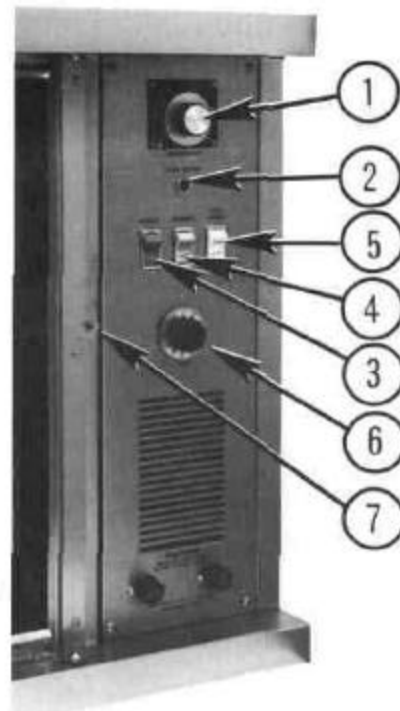

Figure 3-1
1. All controls for the Model 4200 oven are located on the control panel on the front of the oven (Fig. 3-1). These controls are; a thermostat to control oven temperature (Fig. 3-1 No. 1), an oven ready indicator light (Fig. 3-1 No. 2), a power switch with ON and OFF positions (Fig. 3-1 No. 3), a blower switch with high and low positions (Fig. 3-1 No. 4), a cool down switch with manual and auto positions (Fig. 3-1 No. 5) and a 60-minute mechanical timer (Fig. 3-1 No. 6).
4. Blower will automatically shut off by a door interlock switch when door opens (Fig. 3-1 No. 7). Closing the door will restart the blower.